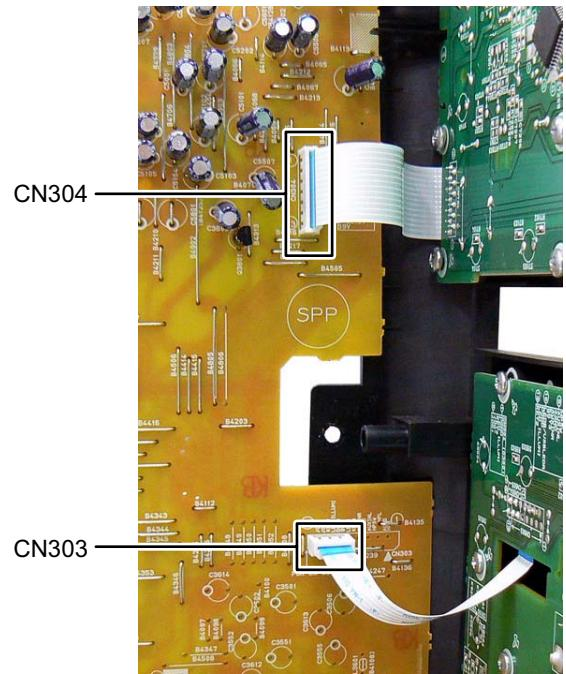

Fig.12
3.1.7 Removing the Front panel (See Fig.12 to 14)
- (1) Disconnect the card wire from FL board connected to connector CN304 of the Micom board. (See Fig.12)
- (2) Disconnect the card wire from Volume board connected to connector CN303 of the Micom board. (see Fig.12)